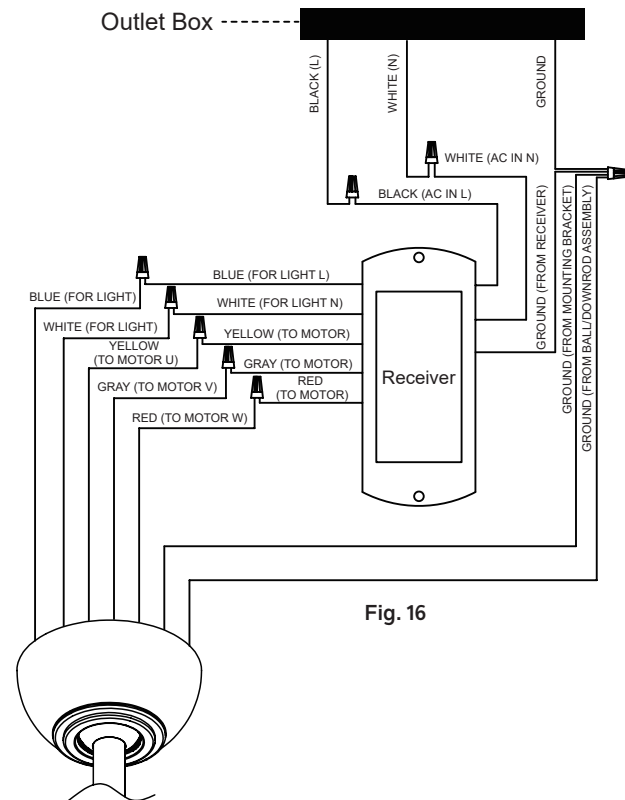

Fig. 16
Make each of the wire connections illustrated in Fig. 16. Secure each with the wire nuts provided.
Step 1. Connect the BLUE (FOR LIGHT) wire from the fan to BLUE wire marked "FOR LIGHT L" from the receiver. **(Fig. 16)**
Step 2. Connect the WHITE (FOR LIGHT) wire from the fan to WHITE wire marked "FOR LIGHT N" from the receiver. **(Fig. 16)**
Step 3. Connect the YELLOW (TO MOTOR U) wire from the fan to YELLOW wire marked "TO MOTOR" from the receiver. **(Fig. 16)**
Step 4. Connect the GRAY (TO MOTOR V) wire from the fan to GRAY wire marked "TO MOTOR" from the receiver. **(Fig. 16)**
Step 5. Connect the RED (TO MOTOR W) wire from the fan to RED wire marked "TO MOTOR" from the receiver. **(Fig. 16)**
Step 6. Connect the BLACK (L) supply wire from outlet box to BLACK wire marked "AC IN L" from the receiver. **(Fig. 16)**
Step 7. Connect the WHITE (N) neutral wire from outlet box to WHITE wire marked "AC IN N" from the receiver. **(Fig. 16)**
Step 8. Connect GROUND (GREEN) wires from mounting bracket, hanger ball, and receiver to household GROUND (GREEN) or BARE (COPPER). **(Fig. 16)**